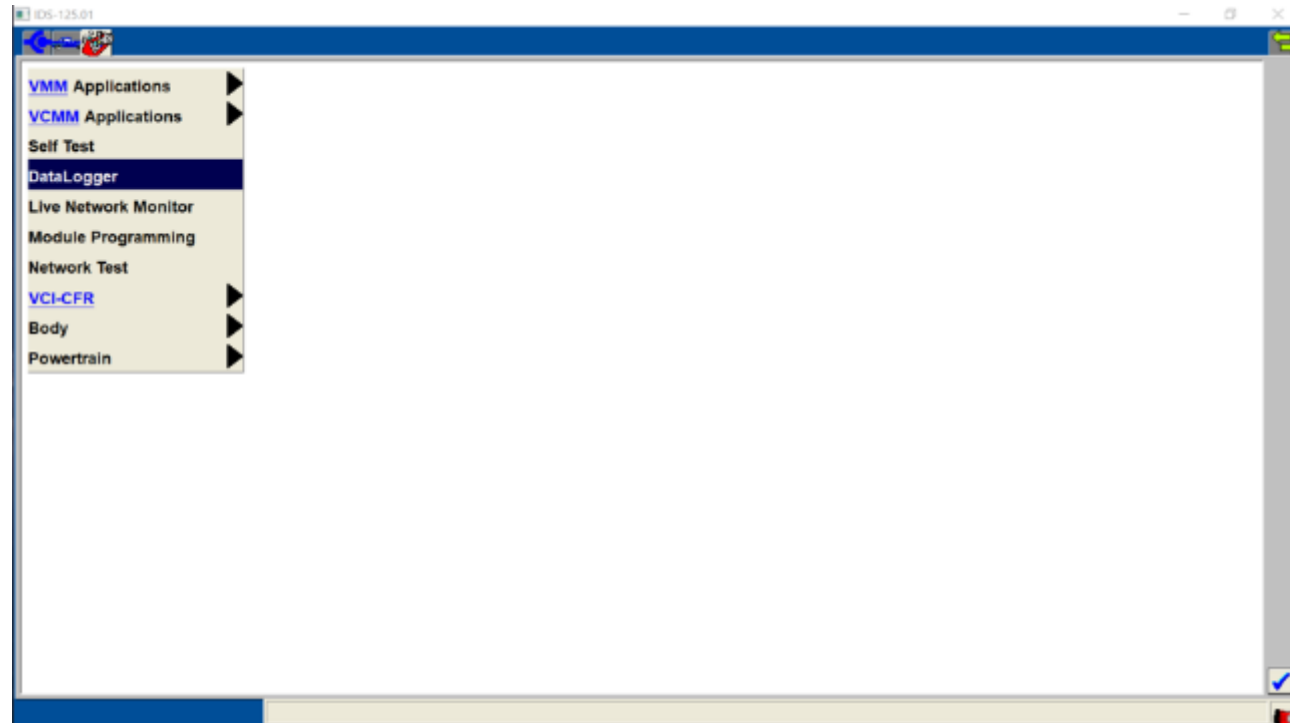

Fig 3
Step 2: Select the red tool box icon in the upper left and double click on “DataLogger” (Figure 3)